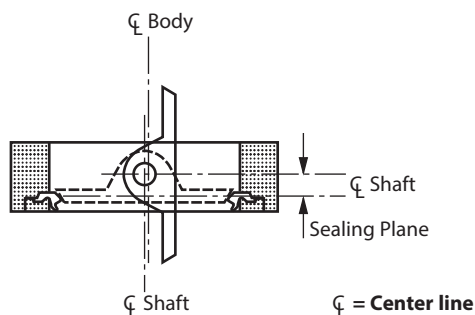

Figure 1 Offset Shaft Operation
One of the design features of the *Wafer-Sphere* valve that is responsible for its superior performance is the valve's offset shaft design. The shaft is offset in two planes: (1) away from the valve disc centerline and (2) behind the disc sealing plane. Offset shaft design makes the rotating disc "cam" back and away from the seat, completely eliminating the usual wear points at the top and bottom of the seat. Because the disc rotates off the seat in an eccentric arc, it operates in one quadrant only (See **Figure 1**).
4. Before installing a closed valve in the pipeline, be sure that the actuator is attached so that a counter-clockwise rotation, viewed from above, opens the valve (See **Figure 1**). Fully close the valve again before installing in the pipeline.